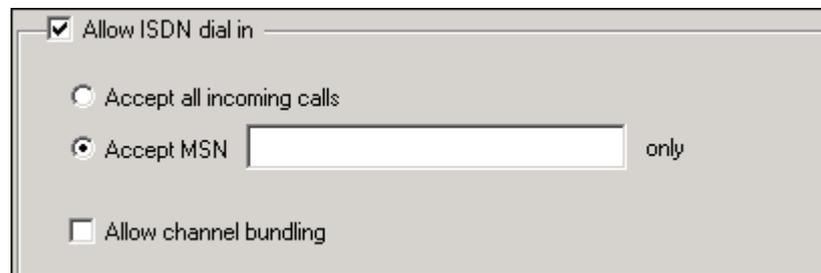

Fig. 14 *Accept MSN* option field on the *Network* tab
2. Mark the checkbox **Allow ISDN dial in** (see "Fig. 14", page 28).